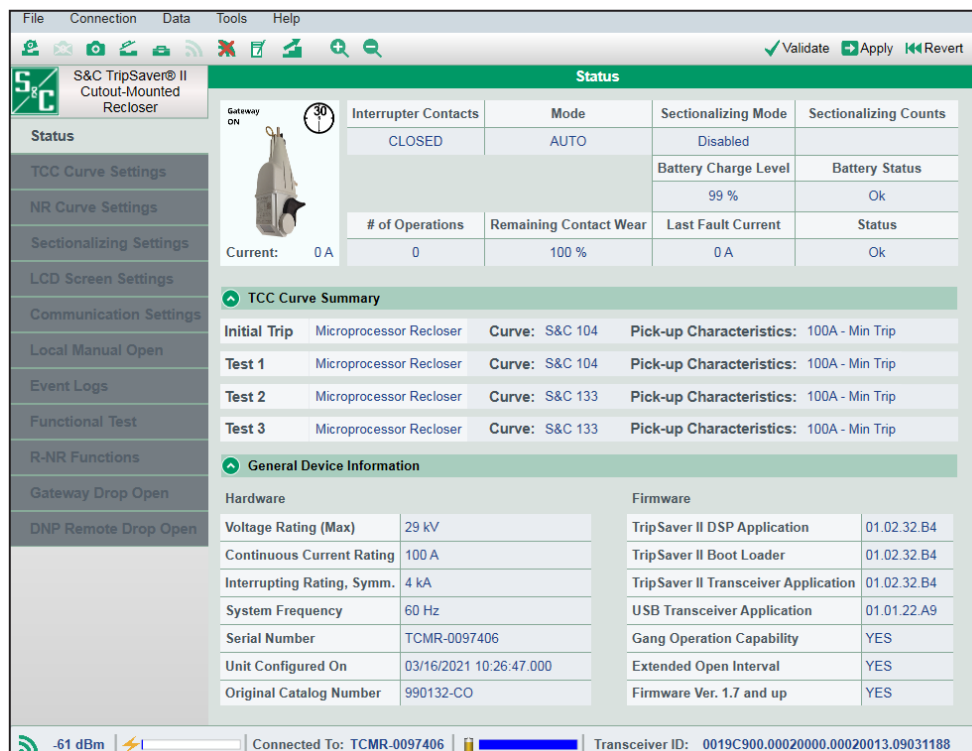

Figure 16. The recloser Status screen.
- The *Status* screen will open after the TripSaver II recloser is successfully connected. See Figure 16. Existing settings, status information, and event logs of the TripSaver II recloser can now be viewed, or new settings for the device can be applied.